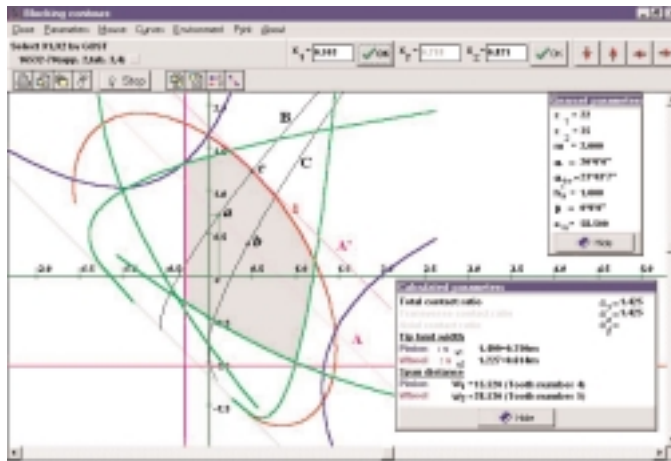

Figure 3—Description of features of BC lines.
In order to apply a BC more effectively, “additional” lines within the coordinate plane x_1 and x_2 are used along with the abovementioned lines generating the blocking contour. These lines, like the lines forming the BC, are the geometrical representation of several properties of a gear under design. Let’s consider some of these lines (Fig. 3).
I. Straight line with the equation $x_1 + x_2 = x_\Sigma$ (line A in Fig. 3)
II. Line with the equation $\alpha_{a1} = \alpha_{a2}$ (line B in Fig. 3)
- 2.) for a given transverse contact ratio ϵ_α , the maximum possible value of the shifts sum coefficient x_Σ (and therefore the maximum values of a_w and α_{tw}) is achieved along line B, at the point of its intersection with the line ϵ_α (line 1 in Fig. 3). As the value x_Σ increases, the values of curvature radii for the pinion and gearwheel tooth involute profiles also increase, leading to a decrease of contact stresses and, therefore, an increase of gear contact strength. This opportunity, however, can be practically implemented only
III. Line of equal specific sliding (line C in Fig. 3)
Let's consider the blocking contours of an external spur gear (Fig. 3) presented to the user of a “Contour” CAD system based on the described concept. A spur gear with the following initial parameters is considered: $z_1 = 22, z_2 = 35, m = 2$ mm; $\alpha = 20^\circ$ and $h_a^* = 1$. (This data is presented in a small panel “Gearset parameters” near the figure's upper right corner.) Center distance a_w is assumed to be predetermined $a_w = 58.5$ mm. The area limited by the blocking contours is shaded in the figure. Line A corresponds to the initial center distance $a_w = 58.5$ mm. The shift coefficients at point a , where lines A and B intersect, are equal to $x_1 = 0.103, x_2 = 0.718$ and $x_\Sigma = 0.821$. The maximum allowable transverse contact ratio $\epsilon_\alpha = 1.425$ for the given a_w is achieved at this point. (This ratio is shown in the panel “Calculated parameters” in the figure's lower right corner.)
If the gear design allows the center distance a_w to be increased from a geometrical point of view, the increase corresponds to the displacement of line A to line A', where it is tangent to the line $\epsilon_\alpha = 1.2$. This line (the curved line 1 in Fig. 3) limits the blocking contour from above and from the right. Note here that the minimum recommended value of the transverse contact ratio for spur gears according to Russian standards for their geometry calculation is $\epsilon_\alpha = 1.2$. Maximum values of x_Σ, a_w and α_{nw} are reached here within the blocking contour. Reference 5 shows that the contact of line A ($a_w = \text{constant}$) and $\epsilon_\alpha = \text{constant}$ (line 1 in Fig. 3) always takes place at the intersection of lines 1 and B independent of the value ϵ_α . This is the point c , where the shift coefficients are $x_1 = 0.497$ and $x_2 = 1.232$, and the values of shifts sum coefficient, center distance and pressure angle are $x_\Sigma = 1.729, a_w = 59.960$ mm and $\alpha_{nw} = 26^\circ 42' 33''$, respectively.